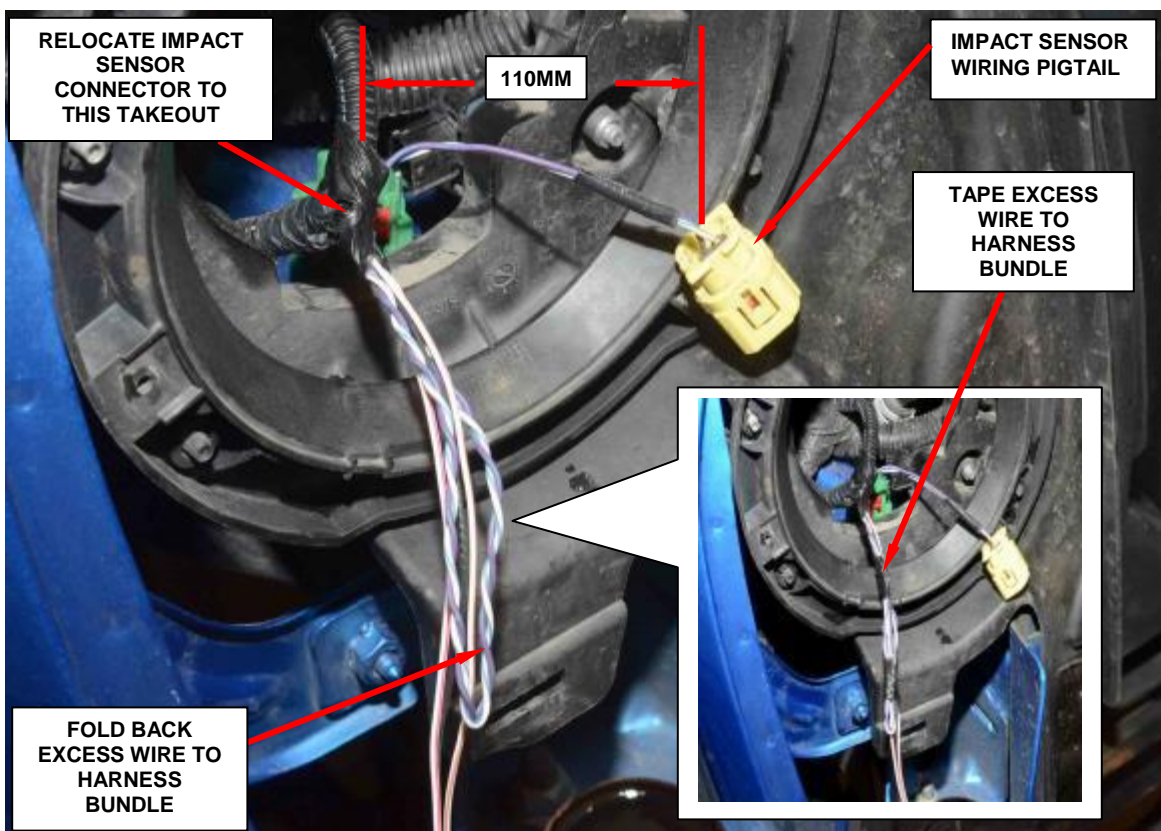

Figure 8 – Relocate Impact Sensor Pigtail
20. Relocate the right front impact sensor wiring pigtail by pulling it rearward to the next wire harness takeout as shown (Figure 8).
21. Tape the right front impact sensor wiring pigtail to the wire harness bundle and make the pigtail length **110mm** (4.5in) (Figure 8).
22. Fold back the excess wire length to the wire harness bundle and tape securely (Figure 8).